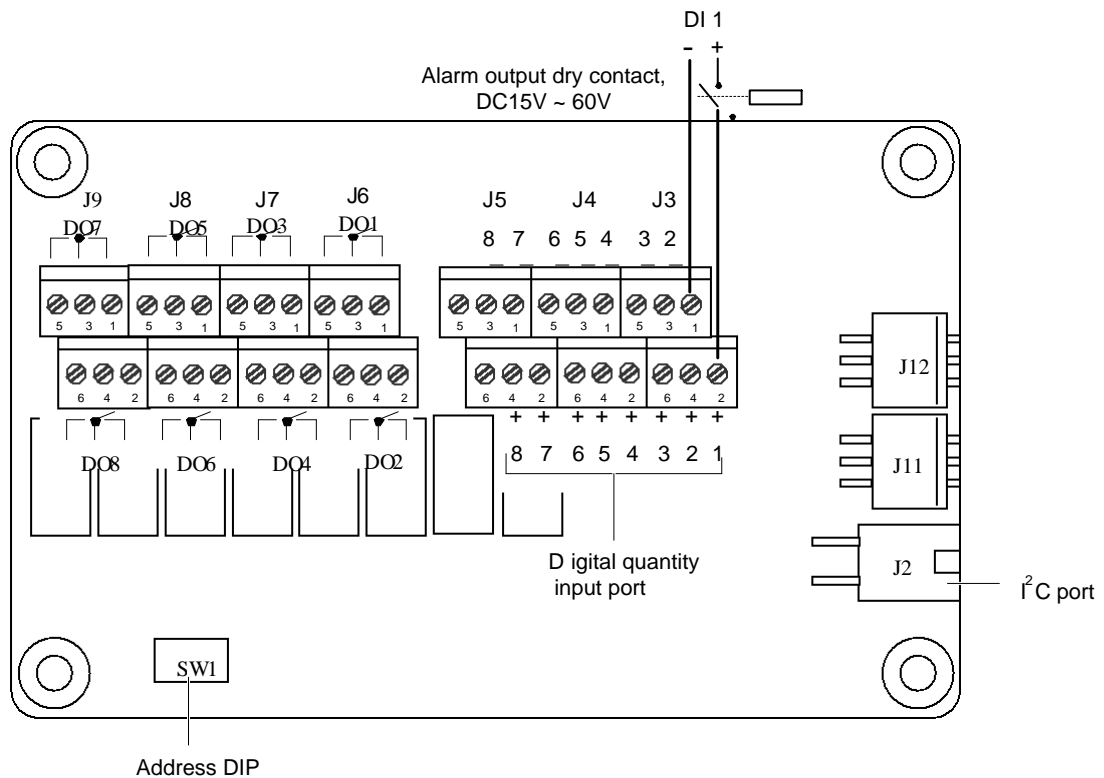
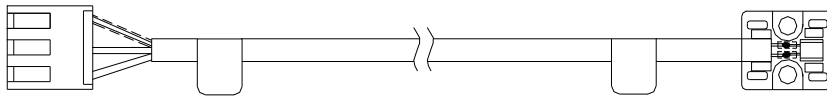

Figure 3-24 User connector board
Figure 3-25 Temperature sensor
IB2 extension board has eight DI and eight DO port. The interfaces of the user interface board are shown in Figure 3-24.
1. Connect the P101-3 socket of the temperature sensor to J11 or J12 terminals of IB2 user connect board, the positions of J11 and J12 is shown in Figure 3-24. The temperature sensor is shown in Figure 3-25.